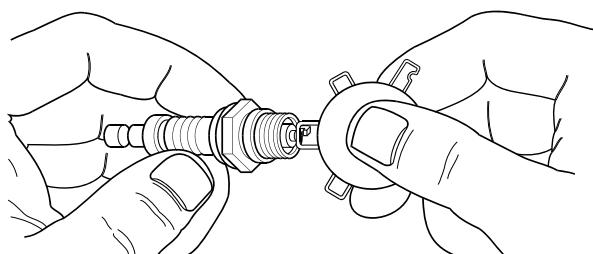

Figure 4-4. Spark Plug Gap
4. Set the new spark plug’s gap to 0.028-0.031 in (0.70-0.80 mm). See Figure 4-4.